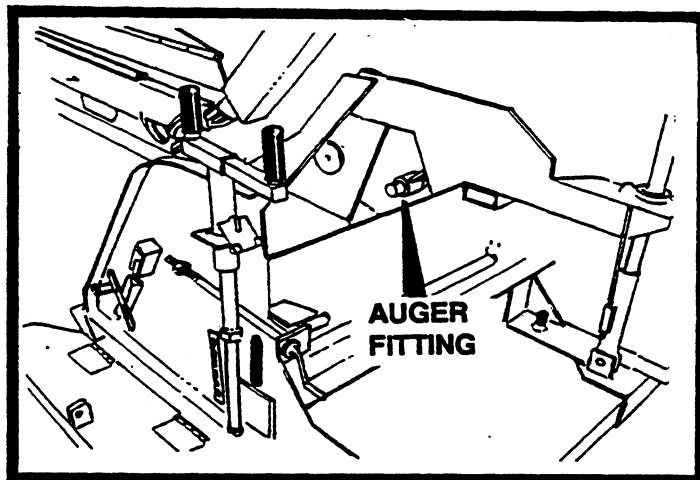

FIGURE 29
5. There are three grease fittings that should be greased daily with a good grade of multipurpose grease. Two fittings are on the outside end of each auger. See figure 29.